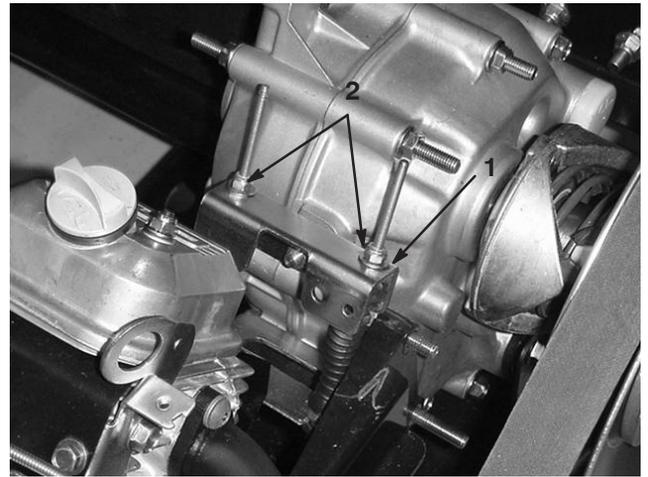

Figure 27
When performing routine maintenance and/or engine diagnostics, the transaxle must be shifted into neutral (Fig. 27). The vehicle has a neutral position on the shift lever, which controls the neutral in the transaxle. The following steps should be taken to make sure that the neutral shift lever operates the transaxle neutral correctly:
2. Set the neutral bracket on the transaxle to the neutral position (level), turn the drive clutch, and check to see if the vehicle rolls back and forth (Fig. 27).
3. Tighten one of the locknuts (Fig. 27) just enough to take the slack out of the shift cable.